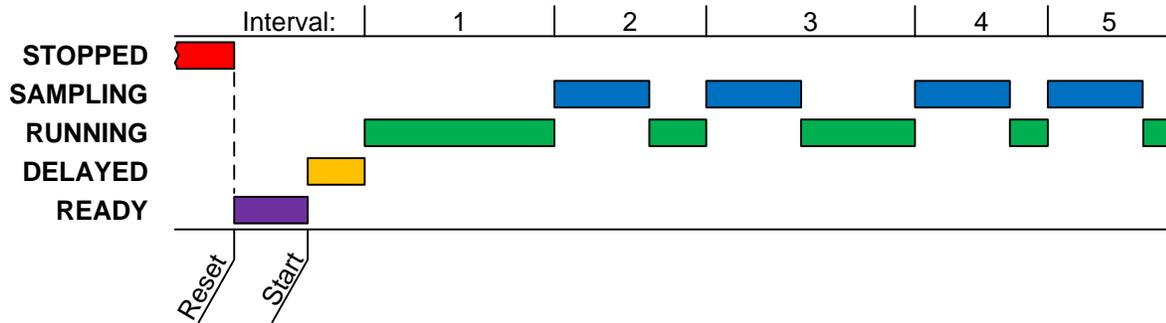

Figure 0-3: Basic Sample Timing Diagram
- If a non-zero value (up to 9999 minutes) has been assigned to the Delay Start run Option (see page 54), the first sampling interval will be further delayed by that many minutes (see Figure 0-3 on page 93). Until then, the program will display its operating state as DELAYED.